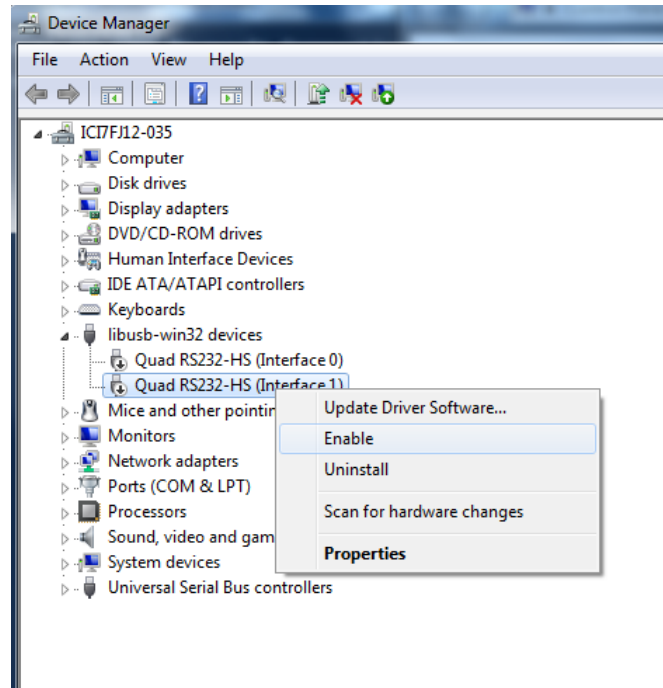

Figure 3: Enabling FTDI channel from device manager
2. **Verify libusb driver:** Go to windows device manager. You should be able to see libusb device. Under libusb, FTDI devices (1 for each channel) should be shown for which libusb driver is installed(refer to figure 3. Disable all channels except one channel(the one you want to use for programming).
Due to limitation from MS Windows, PC running FTDI-programmer must have only one channel active. Libusb driver can be installed on multiple channels. However ensure that all the channels except the desired channel are disabled. This can be done in windows device manager utility. Refer to Figure 3. The user must have administrator privilege.